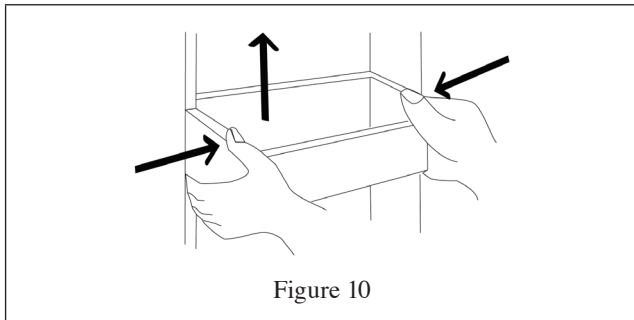

Figure 10
- According to the direction arrow in the figure below, use both hands to squeeze the tray, and push it upward, then you can take it out. See Figure 10.